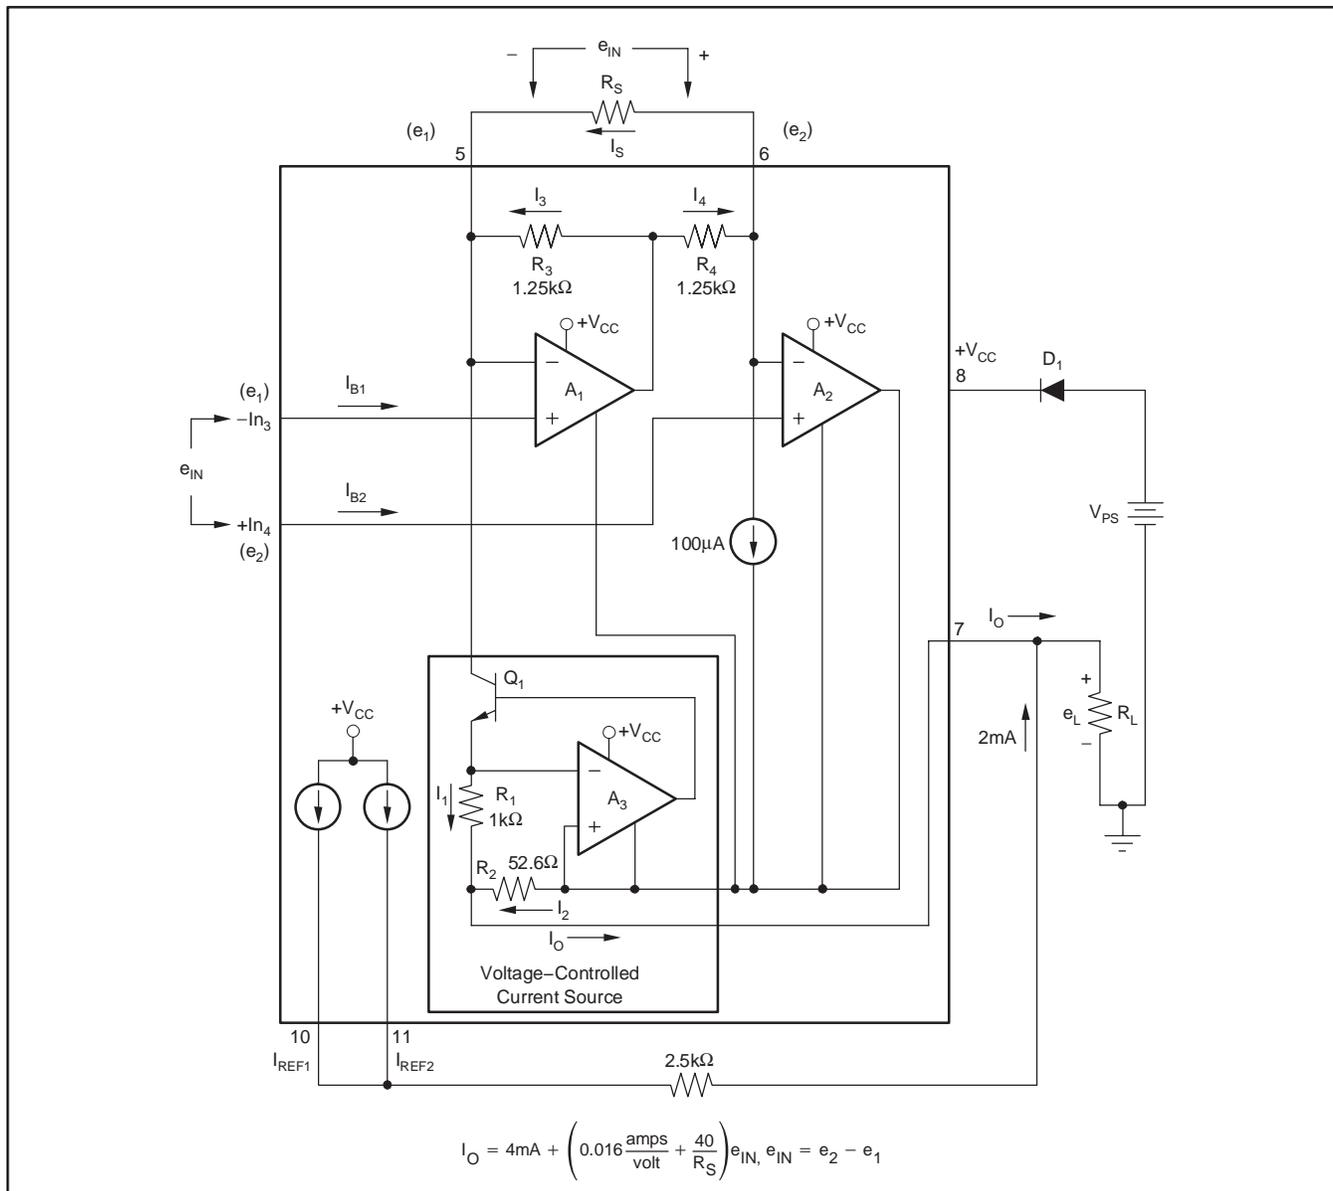

Figure 1. Simplified Schematic of the XTR101
A simplified schematic of the XTR101 is shown in Figure 1. Basically, the amplifiers A_1 and A_2 act as a single power-supply instrumentation amplifier controlling a current source, A_3 and Q_1 . Operation is determined by an internal feedback loop. e_1 applied to pin 3 will also appear at pin 5, and similarly, e_2 will appear at pin 6. Therefore, the current in R_S (the span setting resistor) will be $I_S = (e_2 - e_1)/R_S = e_{IN}/R_S$. This current combines with the current I_3 to form I_1 . The circuit is configured such that I_2 is 19 times I_1 . From this point, the derivation of the transfer function is straightforward but lengthy. The result is shown in Figure 1.
See Figure 1 for the basic connection of the XTR101. A difference voltage applied between input pins 3 and 4 will cause a current of 4-20mA to circulate in the two-wire output loop (through R_L , V_{PS} , and D_1). For applications requiring moderate accuracy, the XTR101 operates very cost-effectively with just its internal drive transistor. For more demanding applications (high accuracy in high gain), an external NPN transistor can be added in parallel with the internal one. This keeps the heat out of the XTR101 package and minimizes thermal feedback to the input stage. Also, in such applications where the e_{IN} full-scale is small ($< 50mV$) and R_{SPAN} is small ($< 150\Omega$), caution should be taken to consider errors from the external span circuit plus high amplification of offset drift and noise.
7. It is recommended that a reverse polarity protection diode (D_1 in Figure 1) be used. This will prevent damage to the XTR101 caused by a momentary (such as a transient) or long-term application of the wrong polarity of voltage between pins 7 and 8.